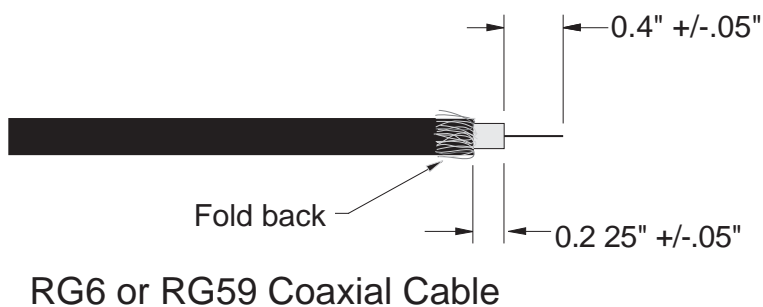

figure 1
Cable Prep (figure 1):
1. Prepare cable according to figure 1 or use the Pico Macom model CS-596 cable stripper to achieve the same results.